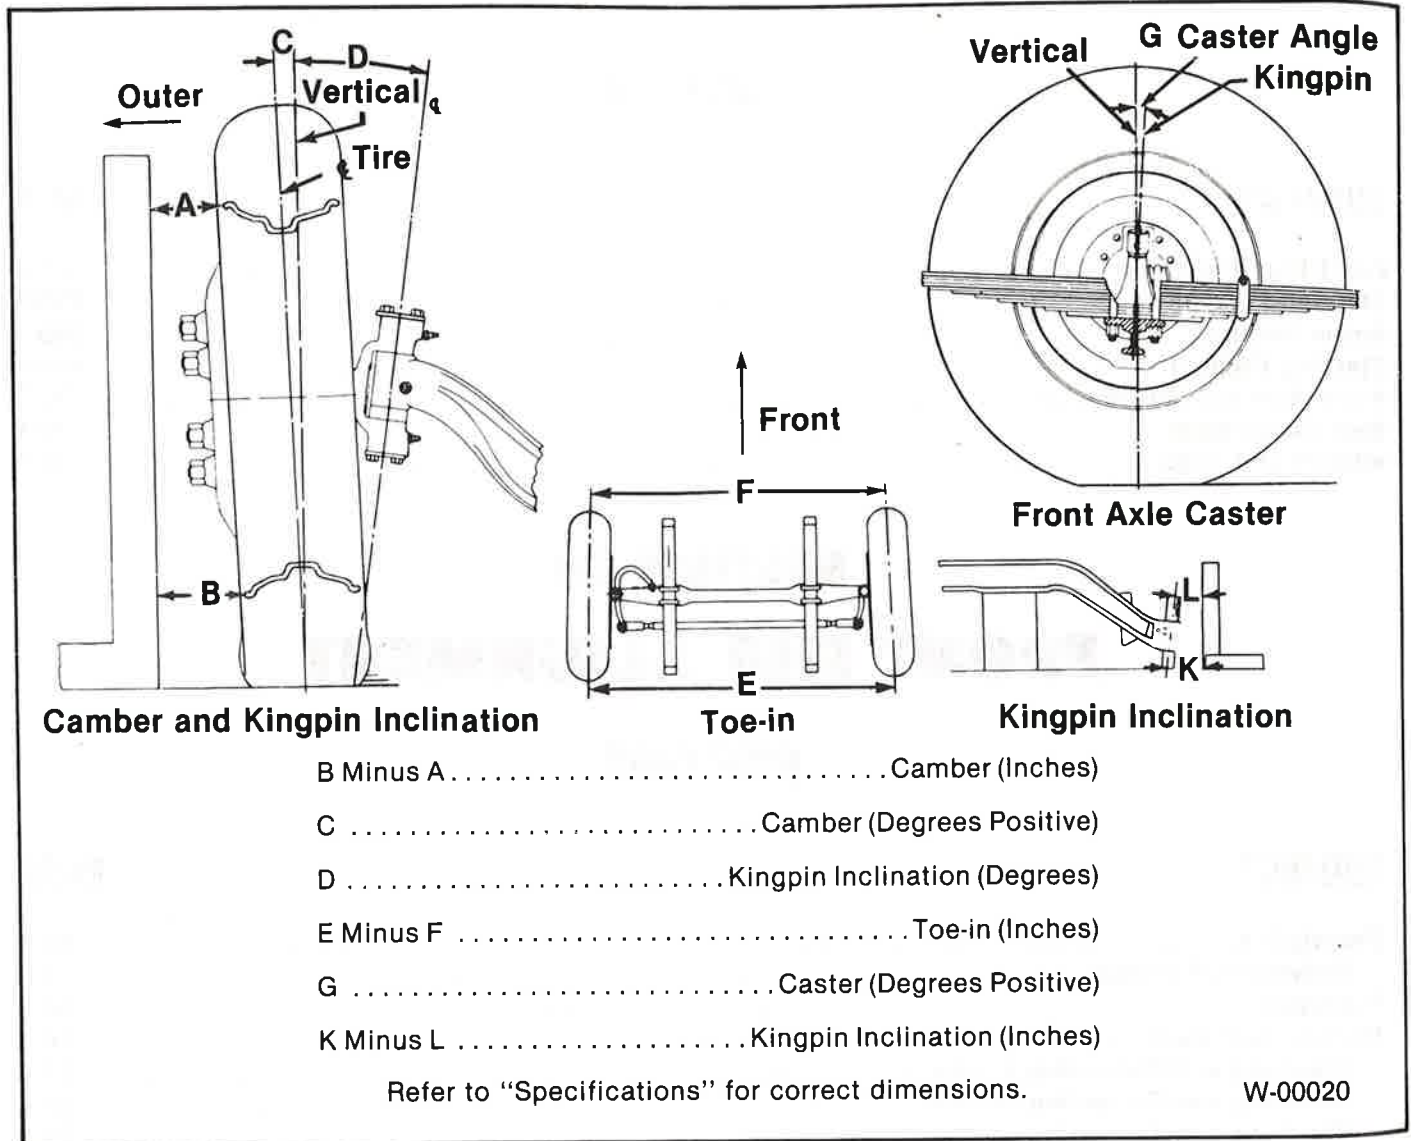

Figure 1. Front End Alignment Chart
(figure 1) indicates the points at which the alignment dimensions are taken.
The distance between the front wheels is less at the front than at the rear of the axle (E and F, figure 1).
Camber (A, figure 1) is the amount in inches or degrees the top of the front wheels are tilted outward or inward from the vertical position (C, figure 1). Camber offsets wheel deflection, due to wear of front axle parts, and prevents a reverse or negative camber con-
The front axle caster is defined as the inclination of the kingpin from the vertical plane in the fore and aft direction of the vehicle (G, figure 1). Incorrect
clined (D, figure 1) to assist front wheel return to center after a turn is completed.
Toe-in may be measured from the center of the tire treads or from the inside of the tires. Measure at both the front and rear of the axle (E and F, figure 1). Note that the toe-in measurements must be made at the horizontal axis of the wheel.
- b. Adjust the wheel bearings as directed in FRONT AXLE AND SUSPENSION (SEC. 3C), then take the center readings as shown on "Front End Alignment Chart" (figure 1).
2. Place the vehicle on a level surface, with the normal weight of the vehicle on the wheels, then take the final camber reading. If a camber gage is not available, the readings can be taken as shown on the "Front End Alignment Chart" in figure 1. Place the square as shown and measure distances A and B. B SHOULD EXCEED A. Camber dimensions of the right wheel should not vary over 2.4 mm (3/32 inch) from camber dimensions of the left wheel. If the final camber reading is incorrect, either the steering knuckle or the axle is bent.
3. To determine which part is bent, check the kingpin inclination (D, figure 1). Camber plus kingpin inclination is the included angle of steering knuckle. If the kingpin inclination angle is to specification and the included angle or the camber angle is out of specification, then the knuckle (spindle) must be replaced. Excessive positive camber results in irregular wear of tires at the outer shoulder. Negative or reverse camber causes wear at the inner shoulder. Ease of steering is affected by any incorrect camber setting.